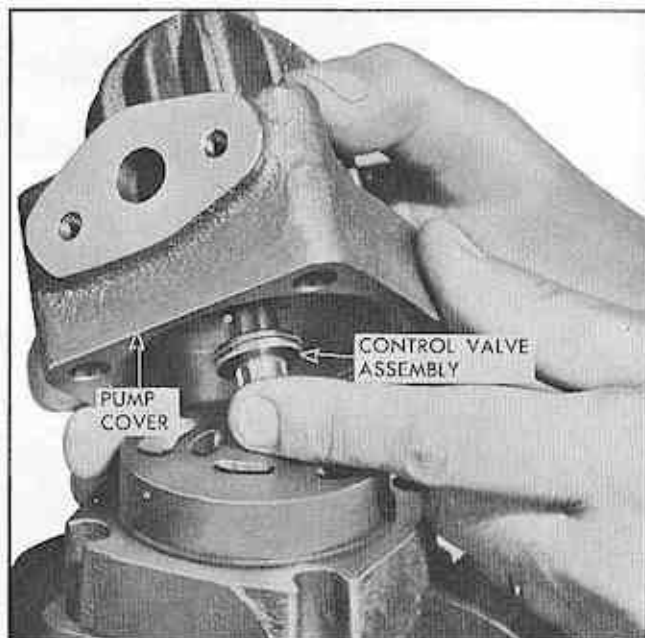

Fig. 96 Removing Pump Cover and Valve Assembly
7. Lift pump cover with flow control valve assembly and spring from assembly. Be especially careful to insure that flow control assembly does not drop out (Fig. 96).